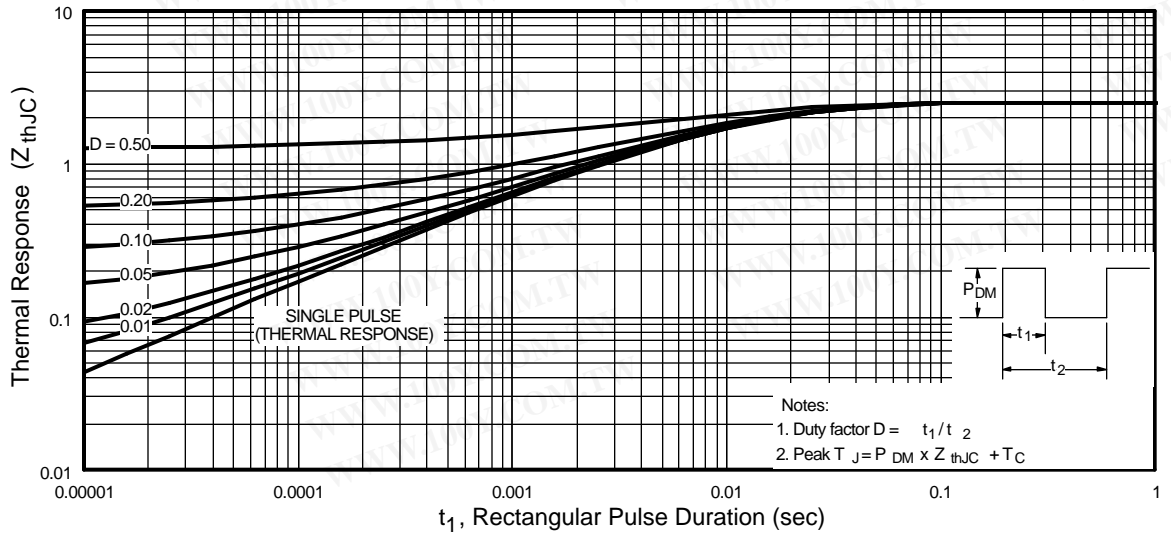

Fig 11. Maximum Effective Transient Thermal Impedance, Junction-to-Case
- ① Repetitive rating; pulse width limited by max. junction temperature. (See fig. 11)
② Starting $T_J = 25^\circ\text{C}$, $L = 57\text{mH}$